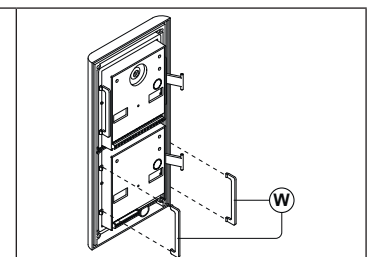

Fig. 8
Fit the anti-tampering locks (W) as shown in Fig. 8.